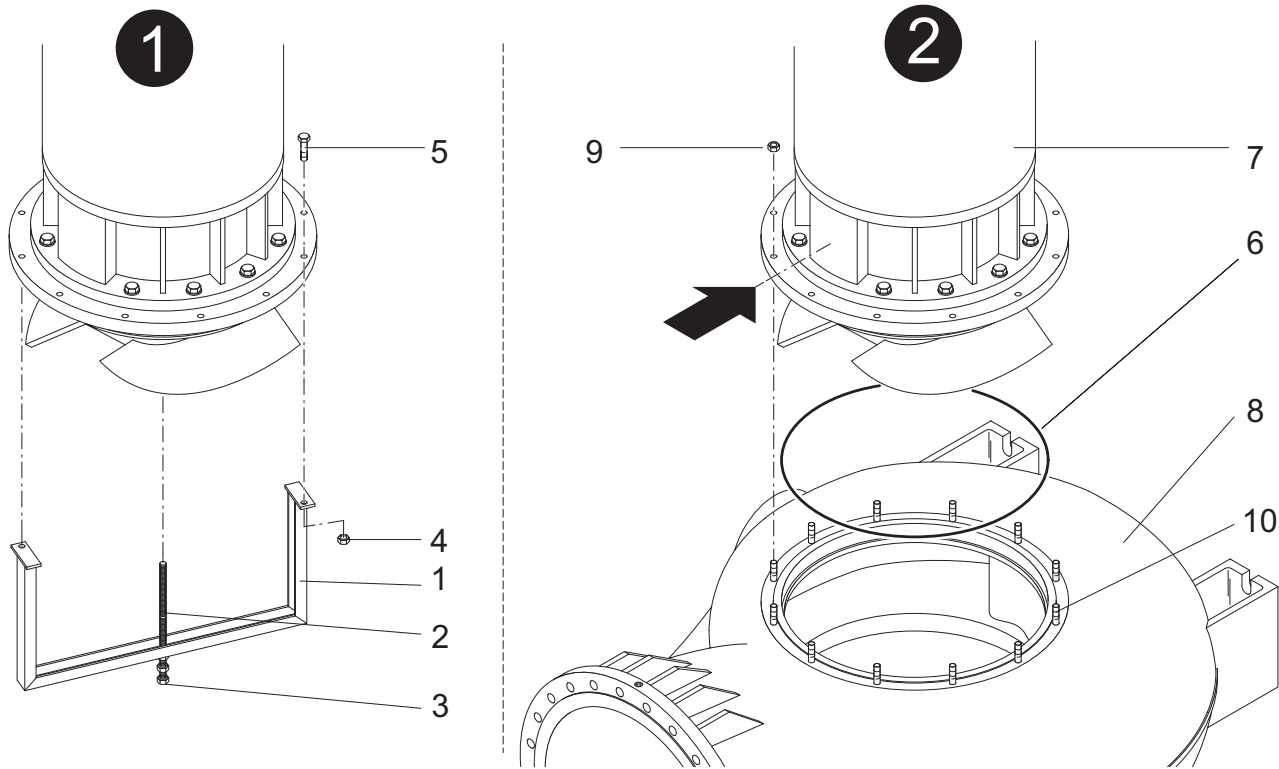

Figure 10 Removal of the transport devices in motors with an impeller installed and a volute to be fitted at the construction stage
- Using a suitable hoist, carefully set up the motor (10/7) over the volute (10/8) so that the cast on lugs in the oil chamber point in the direction of the discharge flange (See arrow illustrated in Figure 10).